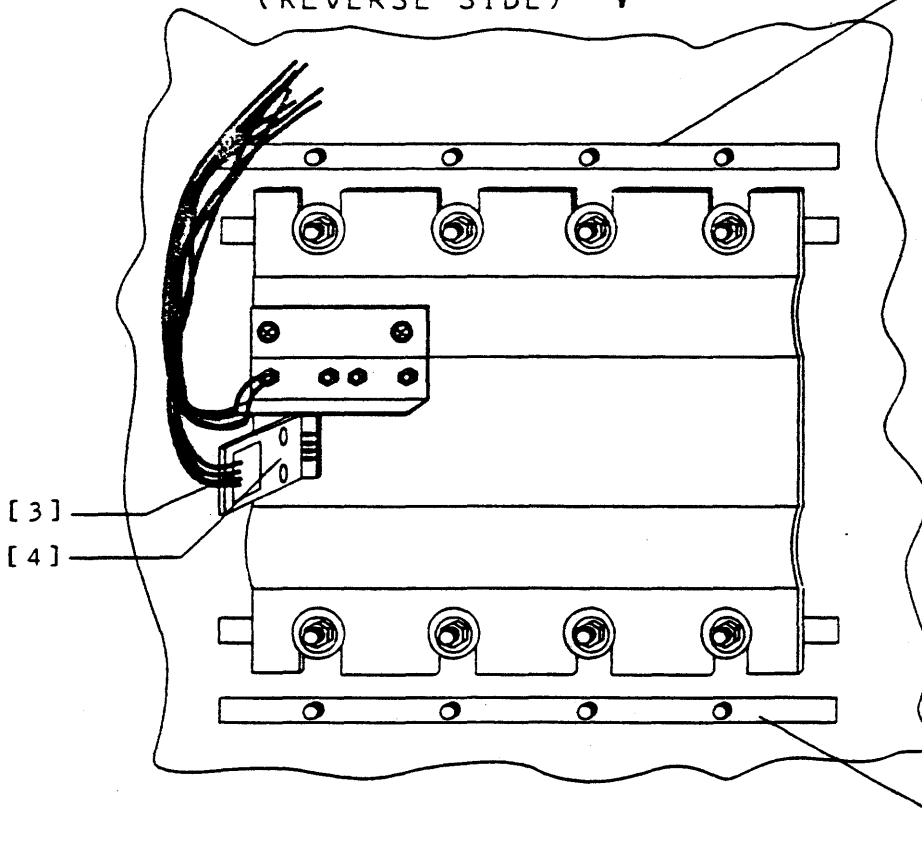

FIGURE 2.10-1. PWB (LED DISPLAY) REMOVAL/INSTALLATION
5. Using ratchet and socket, remove retaining hardware from top of Control Panel Assembly cover (Figure 2.10-1, [1]).
6. Using ratchet and socket, loosen retaining hardware on bottom of Control Panel Assembly cover and lift cover from door (Figure 2.10-1, [2]).
7. Disconnect connector plug A1P1 from LED display PWB (Figure 2.10-1, [3]).
8. Using cross-tip screwdriver and nut-driver, remove retaining hardware securing PWB - remove faulty PWB (Figure 2.10-1, [4]).